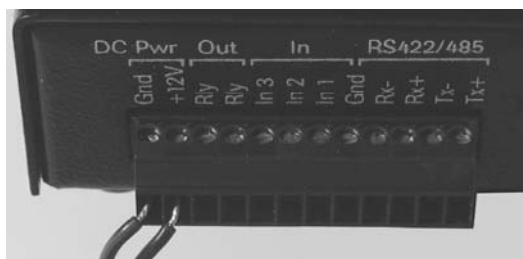

FIGURE 10-5 Terminal on back of digital video encoder.
Change over (CO), or double throw (DT), contacts control two circuits: one NO contact and one NC contact with a common terminal (see Figure 10-5). It is also called a Form C or “transfer” contact (break before make). If this type of contact utilizes a make before break functionality, then it’s called a Form D contact.